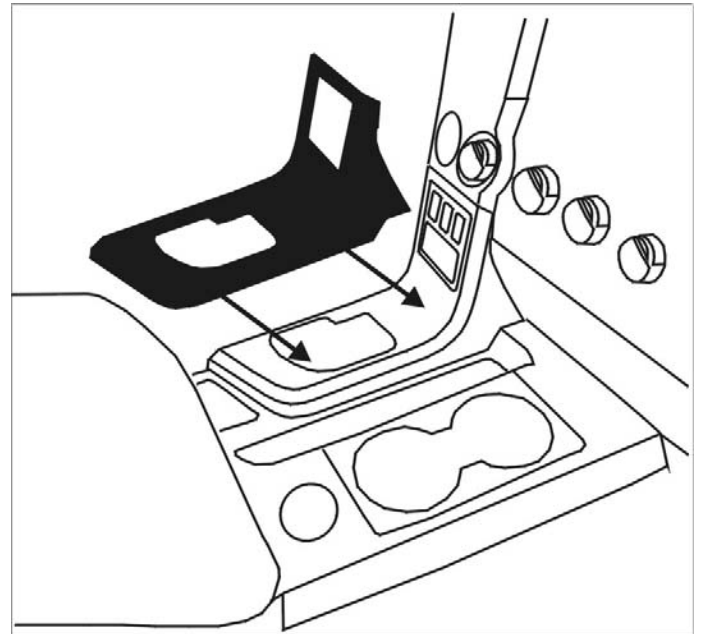

Fig. 4-1
- ⚠** (1) Remove the black center console (area including cupholder) by lifting from the upper back area. Set aside until center console dash applique is secured.
- (2) Align part uniformly to the edge of factory door component aligning all switch openings. (Fig. 4-1)
- (3) Slide the right side of the part into the groove between the factory core and the dash.
- (4) Gently touch part into position.
- ⚠** (5) Reinsert the black center console, snap into place.